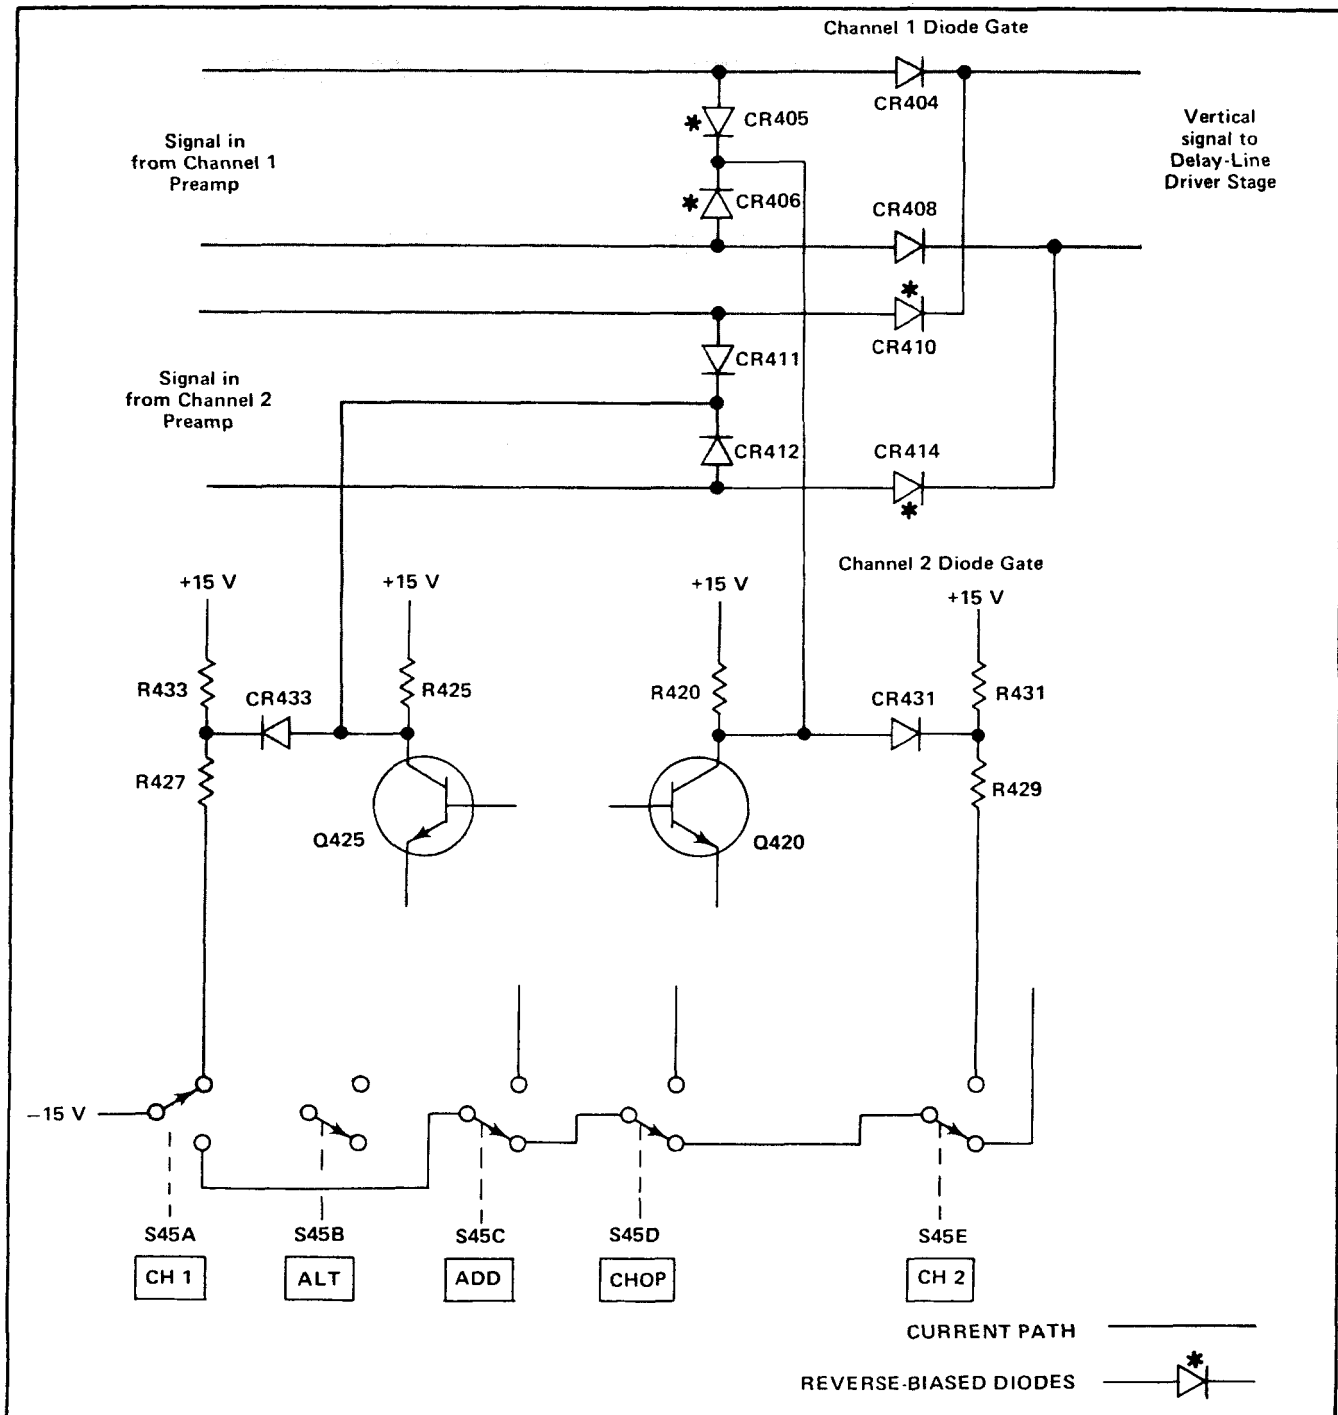

Fig. 3-5. Effect of Diode Gates on signal path (simplified path). Conditions shown for CH 1 mode of operation.
**CH 1.** In the CH 1 mode of operation, -15 volts is applied to the junction of CR411-CR412 in the Channel 2 Diode Gate through Vertical Mode switch S45A, R427, and CR433 (see simplified diagram in Fig. 3-5). This forward biases CR411-CR412 and reverse biases CR410-CR414, since the input to the Delay-Line Driver Stage is at about +6 volts. CR410-CR414 block the Channel 2 signal so it cannot pass to the Delay-Line Driver stage. At the same time in the Channel 1 Diode Gate, CR405-CR406 are connected to +15 volts through R420. CR405-CR406 are held reverse biased, while CR404-CR408 are forward biased. Therefore, the Channel 1 signal can pass to the Delay-Line Driver stage.